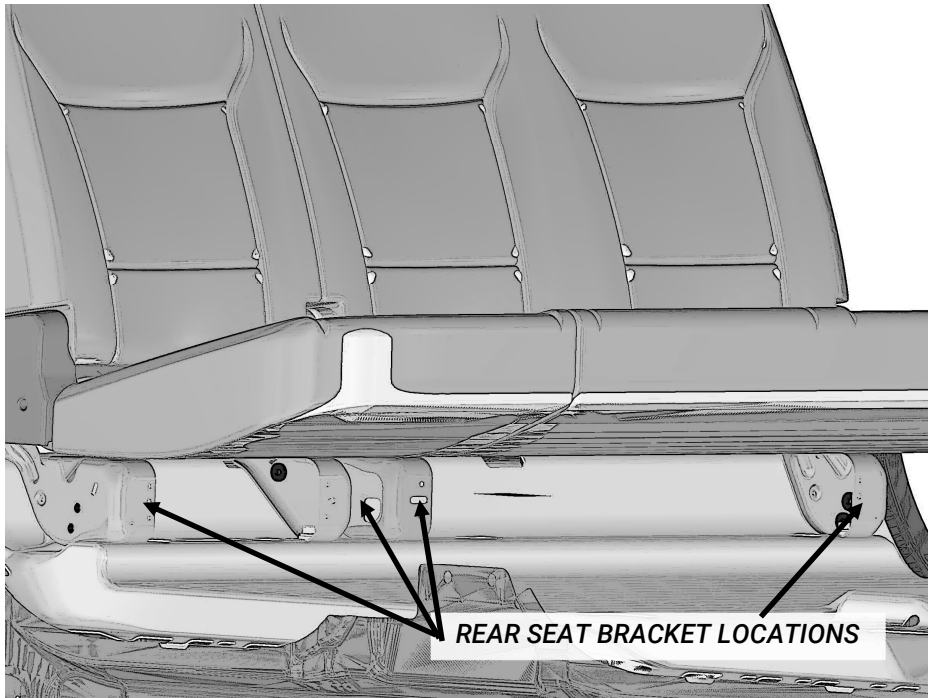
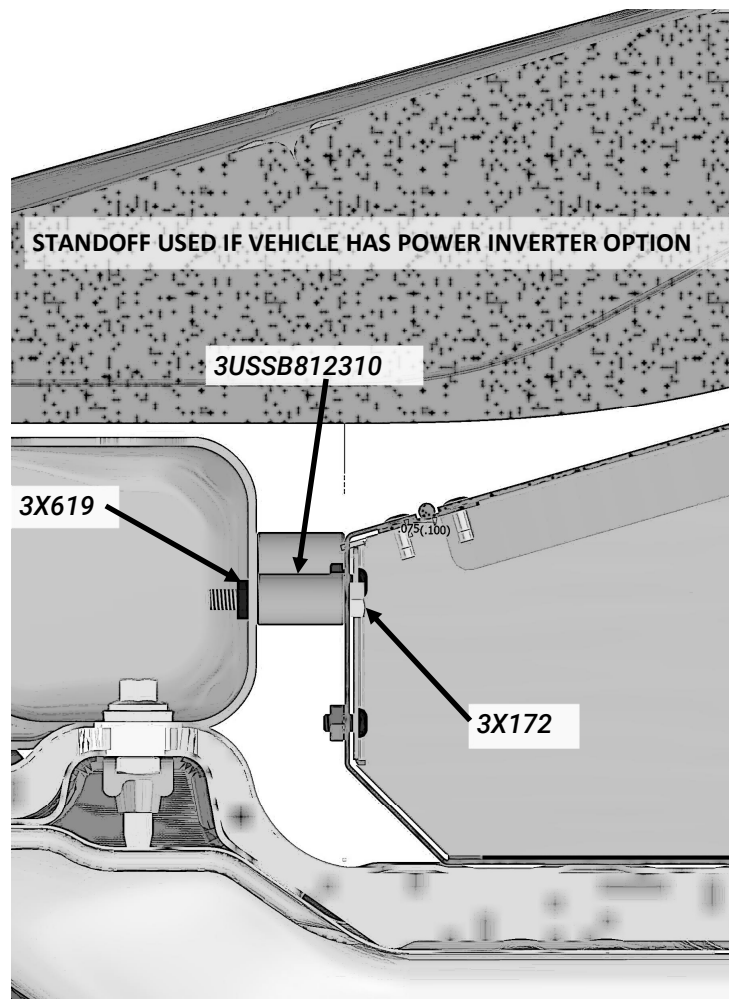

Figure 1
Figure 2
1. Center box within the truck and align holes with rear seat bracket holes / slots. (Figure 1)
2. Insert (4) 5/16-18 x 3/4" bolts [3X172] thru box holes.
3. Behind the seat bracket, start 5/16-18 serrated nut [3X619] . Tighten using 1/2" wrench. Do this in all (4) locations.
4. **OPTIONAL** If vehicle has the **power inverter option**: Insert (4) 5/16-18 x 2" bolts [3X172] thru box holes.
5. Between box and seat brackets, place standoff [3USS812310] and then start 5/16-18 serrated nut [3X619] behind the seat bracket. Tighten using 1/2" wrench. Do this in all (4) locations.(Figure 2)